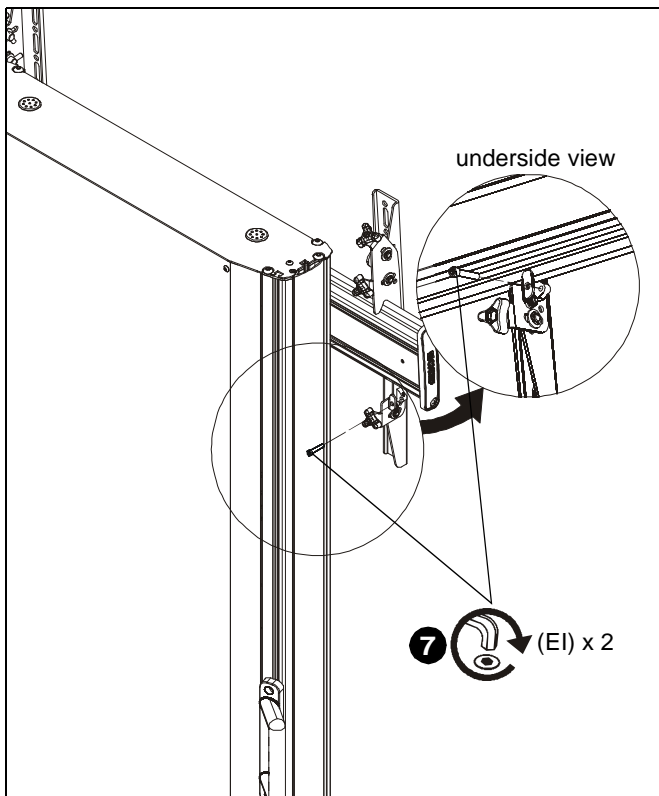

Figure 9
6. Hang interface brackets (A and B) to display rails. (See Figure 9)
7. Use 1/4-20 x 1 1/4" socket head cap screws (HI) to secure interface brackets (A and B) to rails for each display. Screws must engage through both holes to be fully secured. (See Figure 9)